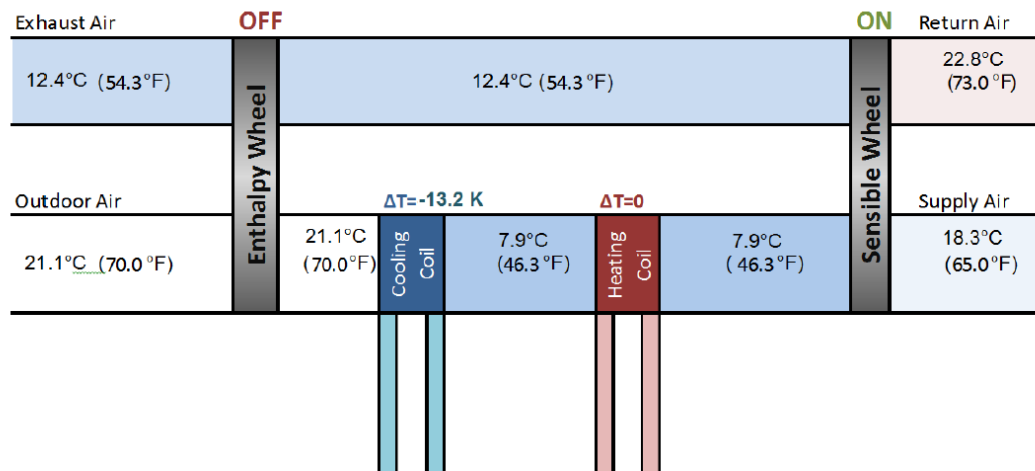

Figure 6. DOAS example with sensible and enthalpy wheels
- Note in Figure 6 that the sensible wheel “robs” the supply air stream of its generated cooling